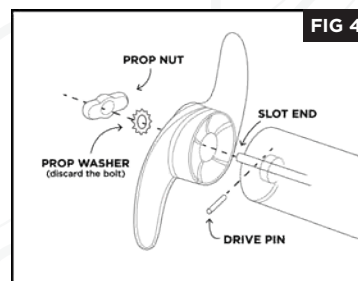

FIG 4
- **Install Propeller:** Locate prop, prop pin, star washer, and nut in the tackle box and/or battery box. Slide the prop pin through the hole in the prop shaft. Center it horizontally. Slide the prop onto the shaft as shown (fig 4). Mate the prop pin into the groove in the backside of the prop hub. Install the star washer, then the prop nut to the shaft. Tighten the nut using the dual-function Kill Switch Key as a wrench. Do not over tighten.